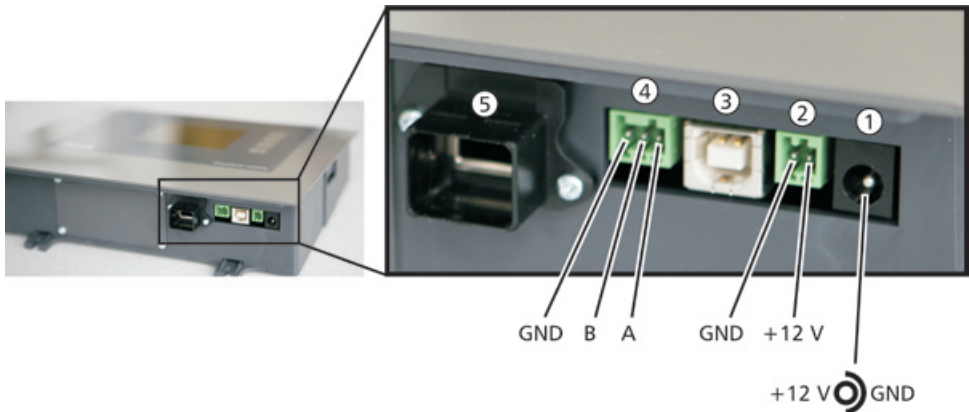

Fig. 2: Connections on the underside
The external housing for the RJ45 socket (⑤ in Fig. 2, p. 34) is only suitable for use with the *HARTING PushPull RJ45 10G* plug provided. Standard RJ45 plugs can jam. Remove the external housing if you wish to insert a standard RJ45 plug. To do this, remove the two screws fastening the external housing.